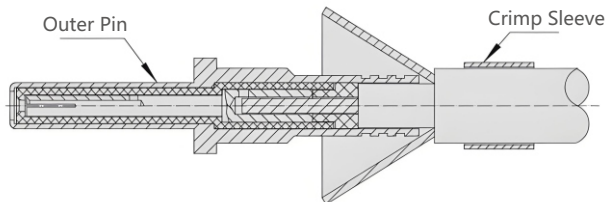

Figure 1.6
⑥ As shown in Figure 1.6, install the outer pin onto the insulated central socket (which has been crimped), until the internal contact and insulator are completely tight against each other.